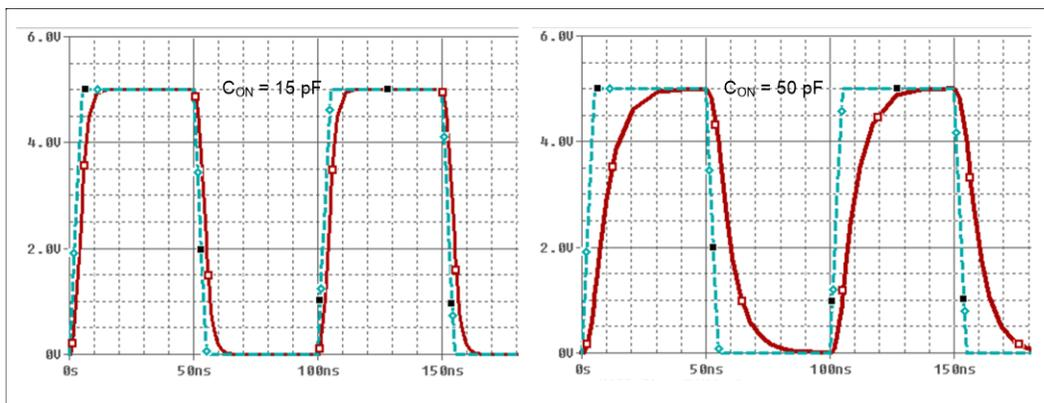

Figure 3-2. Comparison of On-Capacitance Impact on Signal
- On-capacitance (C_{ON}) – This is the capacitance relative to ground seen by the system when the signal switch of the multiplexer is conducting. A low C_{ON} device, such as TMUX1308, allows for quicker response time, optimizing the sampling rate that can be achieved as well as widening the bandwidth. When using an op amp or buffer in front of the built-in ADC of the MCU, a lower C_{ON} will have less negative effects on stability. Figure 3-2 illustrates the effects of on-capacitance on digital signals. The 15-pF device on the left is a simulation of the TMUX1308 signal switch capabilities at 10 MHz. A lower on-capacitance will minimize the RC time constant, allowing for the signal to maintain its integrity. The benefits of a low C_{ON} is described more in more detail in the Improving Stability Issues with Low CON Multiplexers Application Note.
Figure 3-2 illustrates that a lower on-capacitance (TMUX1308 on left) provides less smoothing of the original (cyan) signal.